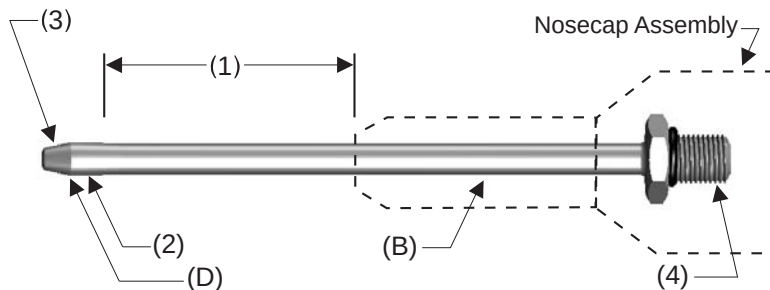

Figure 2.3-13
- Identification is provided by an electroetched model number on the shank of the mandrel. (refer to B on Figure 2.3-13).